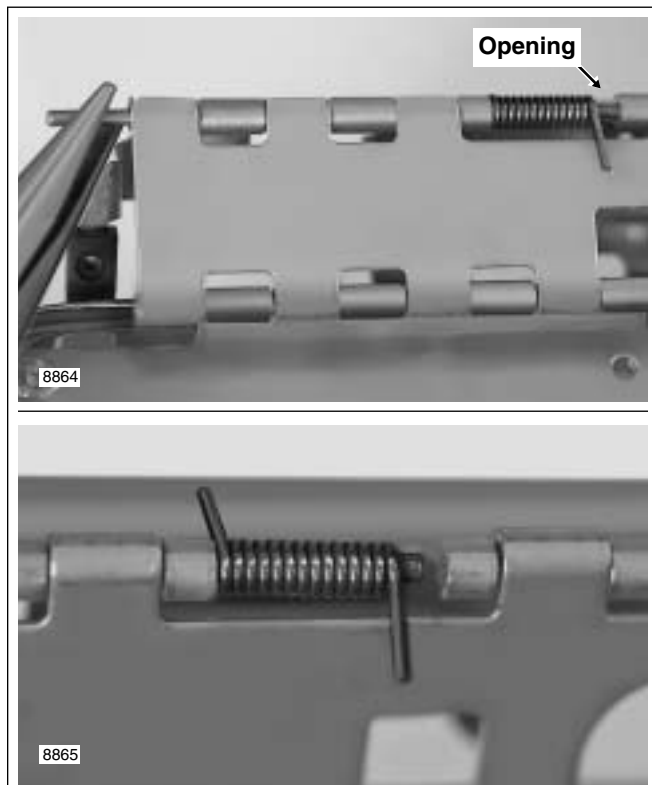

Figure 2-139. Lid Up Side Down With Latch on Far Side
11. Using a needle nose pliers, grasp pin through opening just outboard of the spring and push toward the crimped link side. Work pin in this manner until end can be seen exiting crimped link. See upper frame of Figure 2-139. If necessary, pry crimped link outward a little more to achieve the desired result.
12. Grasping end with needle nose pliers, slowly pull pin from links until spring can be slid off opposite end. Only pull pin as far as necessary to remove spring. See lower frame of Figure 2-139.
1. Slide **new** spring onto end of pin. Orient spring as shown in lower frame of Figure 2-139.